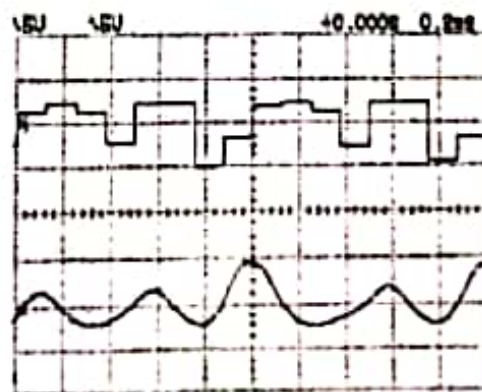

Figure 5-22. Clipping D/A Conversion Demodulation Output(above) & Demodulation message output(below)
(19) Make 4-bit code word by connecting CLK $\times$ 4 terminal to 16[kHz] of SIGNAL GENERATOR and CLOCK $\times$ 16 terminal to 64[kHz] of SIGNAL GENERATOR.
(20) Remove the connection between J3 terminal and NOTCH FILTER INPUT and between J4 terminal and NOTCH FILTER OUTPUT and then connect J3 terminal and J4 terminal.
(21) Connect CH-1 Input probe of oscilloscope to RAMP terminal of PCM-1 module and set RAMP Voltage to be 6[Vr·d] by adjusting Amplitude ADJ. control terminal of RAMP GENERATOR
(22) Connect CH-1, 2 Input probe of oscilloscope to J3 terminal and AUDIO OUTPUT respectively. The wave form like as figure 5-22 would be appeared on oscilloscope screen.